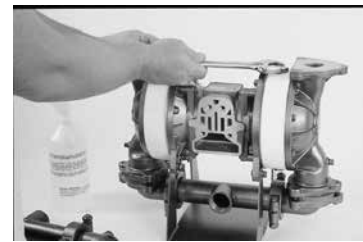

Fig. 5 Tighten the boss plug.
6. When the driver fluid rises to the top of the fill plug hole, screw the boss plug, with o-ring installed, into the chamber (see Fig. 5). (Do not overtighten.)